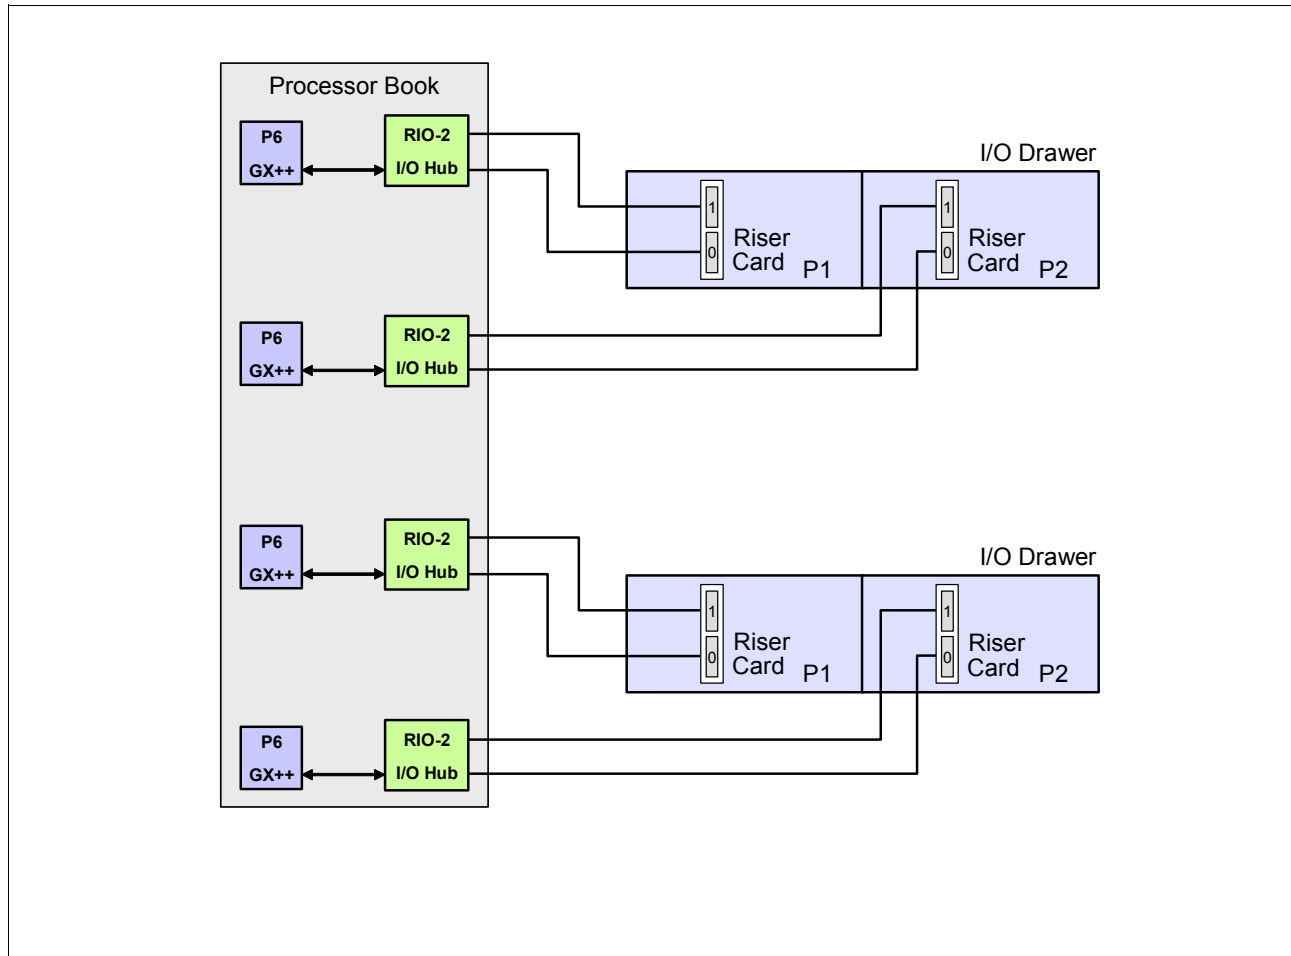

Figure 3-35 Dual loop I/O drawer (FC 5791)
- ▶ Dual-loop (Figure 3-35 on page 153) mode connects each of the two I/O planars (within the I/O drawer) to the CEC on separate loops. Dual-loop connection requires two I/O hub attachment adapters (#1814 or #1816) per connected I/O drawer. With a dual-loop configurations, the overall I/O bandwidth per drawer is higher.
Each of the two internal I/O drawer planars can be cabled and addressed by an I/O hub individually using the preferred, dual loop (half drawer) cabling as shown in Figure 3-35.